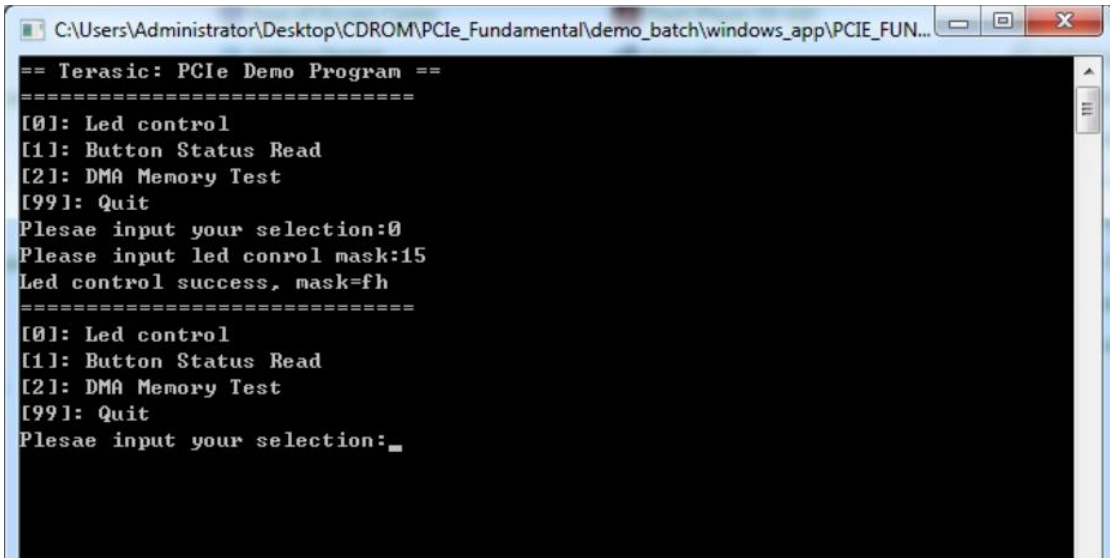

Figure 7-12 Screenshot of LED Control
- Type 0 followed by a ENTER key to select Led Control item, then input 15 (hex 0x0f) will make all Leds on as shown in **Figure 7-12**. If input 0(hex 0x00), all Leds will be turned off.